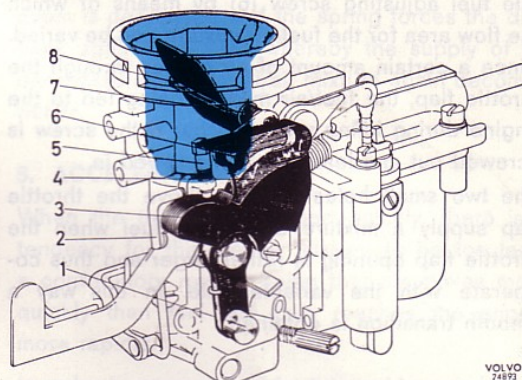

Fig. 65. Choke device with fast idling
In order to enrich the fuel/air mixture when a cold engine is started, the choke system is used and this is operated from the knob on the dashboard. When the choke control is pulled out on starting, the cam-shaped lever (4, Fig. 65) is actuated. This influences the choke flap (8) through the spring (7) on the flap spindle so that it closes, thereby resulting in a higher degree of vacuum and consequently a higher rate of fuel flow. When the engine